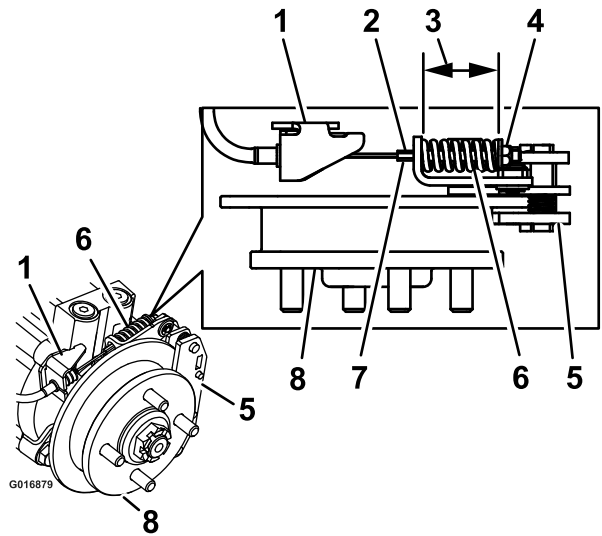

Figure 76
9. Hold the threaded rod end with a tool and adjust the lock nut until the spring length is between 3.8 and 4.0 cm (1-1/2 and 1-9/16 inches) (Figure 76). Do Not allow the cable to turn when the nuts are being loosened.